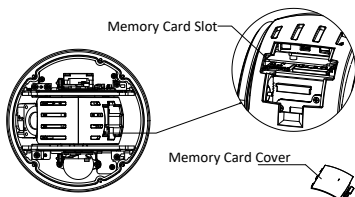
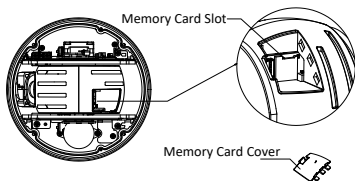

Figure 2-13 For 20× Camera Module
Figure 2-14 For 4× Camera Module
3. Open the memory card cover and insert the memory card into the card slot as shown in Figure 2-13 and Figure 2-14.